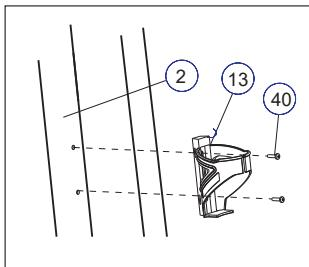

Figure 13
10.2 Use the Screwdriver (36) applied and st4.0x15 bolt (40) to fix the bottle holder(13) on the Centre bar(2). (see fig.13)